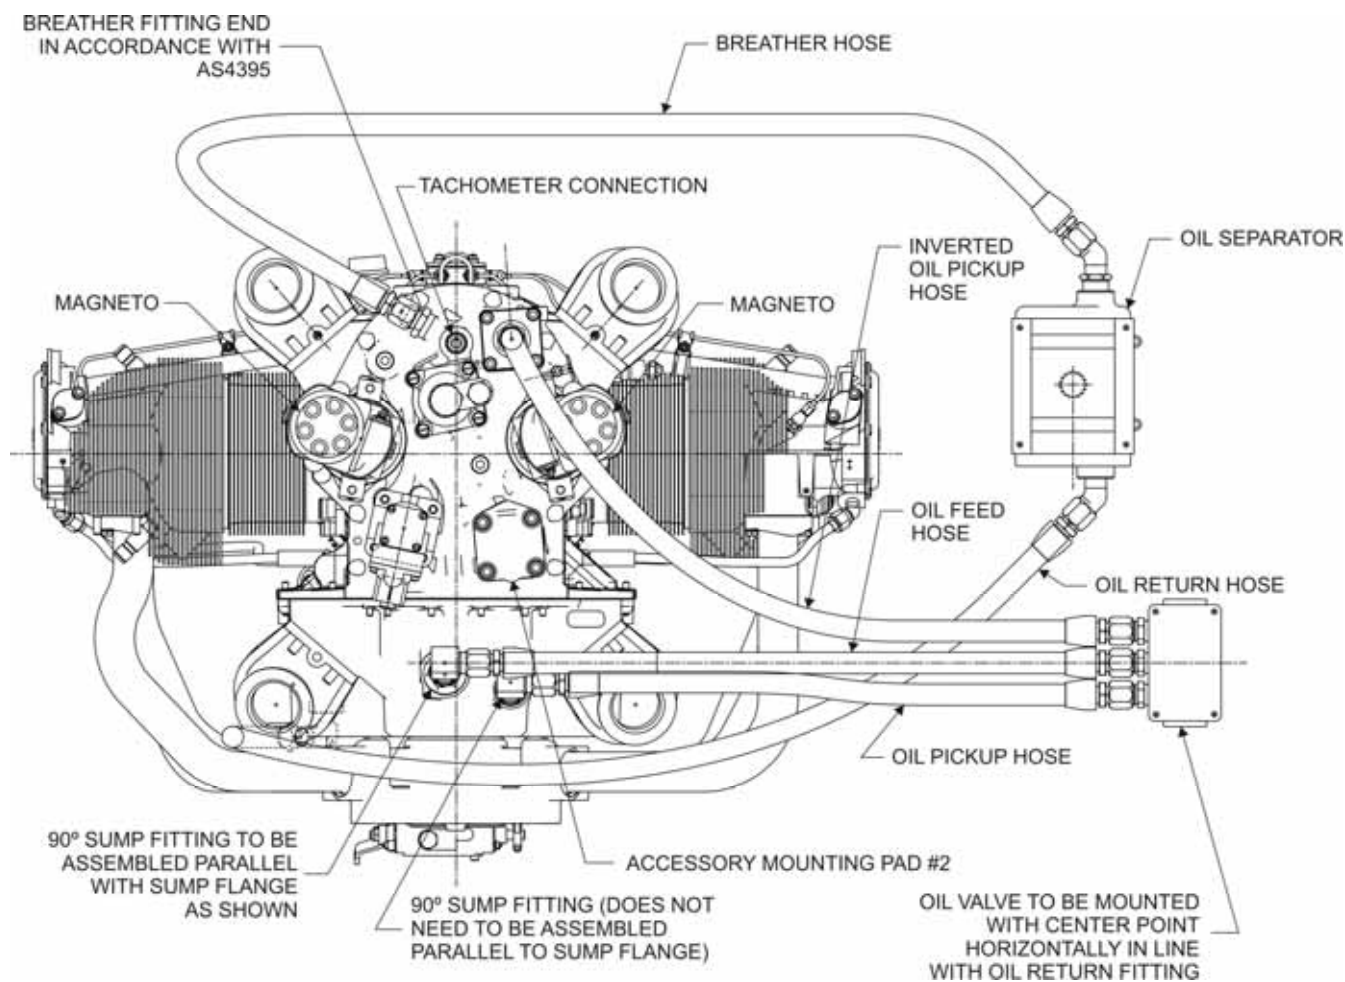

Figure 2-1. Rear View – AEIO-580
- a. Refer to Figures 2-1 through 2-3 for dimensions and connection locations.
- (1) The oil separator must be mounted as high as possible, and as far as possible toward the side of the engine opposite the oil return port on the sump. The bottom of the oil separator must be at least two inches above the top of the sump, and the centerline of the oil separator must be located at least 10 inches from the sump centerline on the side opposite the oil return port. The height requirement ensures rapid emptying of the oil separator following the transition from inverted to normal flight. The side location requirement prevents loss of oil during some types of maneuvers such as knife-edge flight; if the oil separator return port were located on the same side, oil could then run out of the oil return port, filling the oil separator, with consequent loss through the overboard breather line.
- (2) The oil valve must be located such that its center port is horizontally aligned with the sump screen access port. See Figure 2-1. The oil valve itself is equipped with alternate ports to permit hose fittings to be attached either along its front or side (unused ports are blocked with plugs supplied).
- (3) To maximize oil flow rates, avoid 90° fittings in oil lines. Exceptions: fittings in bottom of sump must normally be 90° because of clearance conditions; fittings at top and side ports on the oil separator are non-critical and may be the 90° type.
- (4) To ensure rapid return of oil to the sump from the oil separator, the fitting at the bottom of the oil separator must be either straight, or 45° maximum. If a 90° fitting is used at this point, excessive oil losses may result.
- (5) All hose lengths should be as short as possible.
- (6) Aircraft equipped with constant speed propellers require evaluation before modification for aerobatic flight. During periods of zero oil pressure, some propeller types decrease pitch, while other types increase pitch. Momentary interruption of engine oil pressure during aerobatic flight, which normally occurs during certain maneuvers, may produce decrease pitch and cause engine overspeed if the propeller is of the decreasing pitch type. For safe engine operation during aerobatic flight, therefore, the propeller should be of the increasing pitch type.
- (7) All hoses should be routed and clamped in positions which provide smooth, sweeping curves. Sharp bends should be avoided to prevent collapse of hose walls and restrictions to oil flow.
- (8) The hose from the bottom of the oil separator must extend in a continuous downward slope to the bottom of the sump. An elevated section in this hose run may result in excessive oil loss.
- (9) A breather fitting is provided to permit connection of hose to the crankcase breather port at the top rear of the crankcase. See Figure 2-1.
- (10) The engine and engine compartment should be inspected for obstructions which may affect installation of the oil system. For engines equipped with accessories or parts which prevent normal installation, modifications will be required. Before proceeding with nonstandard modifications, be sure the modification plan is compatible with the operating principles of the system and that care is taken to ensure the mechanical integrity of the engine and airframe.
- (1) Remove drain plugs from sump and thoroughly drain all engine oil.
- (2) Loosen the setscrew in the side of the sump fitting and swivel the rear portion of the fitting to the required final angle. Considerable force may be required to swivel the fitting due to the friction of the internal o-ring seals and the clamping action against the sump screen. A hose fitting may be temporarily installed on the sump fitting to increase leverage. Tighten the setscrew to lock the angle.
- (3) Securely mount the oil valve in position on the engine mount or firewall. Verify that the center port is horizontally aligned with the sump fitting. See Figure 2-1.
- (4) Securely mount the oil separator in position on the engine mount or firewall. When mounting oil separator on a tubular engine mount using cushioned clamps, it may be necessary to drill additional holes in the oil separator mounting bracket.
*Verify that the bottom of the oil separator is as high as possible and at least 2 inches above the top of the sump and as far as possible to the side opposite the oil return port. (Centerline of oil separator to be at least 10 inches from engine sump centerline.) See Figure 2-1.*
- (5) Securely mount the breather tee in position on the engine mount or firewall.
- (6) Install required fittings in all engine and component ports.
- (7) Measure, cut and install Aeroquip 601 for breather hose. See Figure 2-1
- (8) Measure and cut hose for remaining oil lines. Typical hose layout is shown in Figure 2-1. To determine exact cutting length for hose using Aeroquip 816-10D hose fittings, allow exactly 1 inch for each hose fitting.